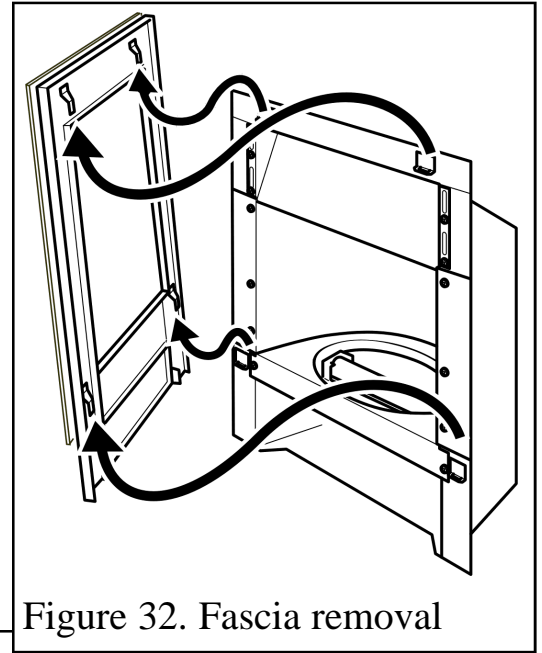

Figure 32. Fascia removal
1. The fascia is held in place by four retaining plates at the back of the fascia. These slot into four retaining brackets on the hotbox. To remove the fascia, hold the sides of the fascia and lift upward and forward. The fascia should lift clear of the hotbox (See figure 32)